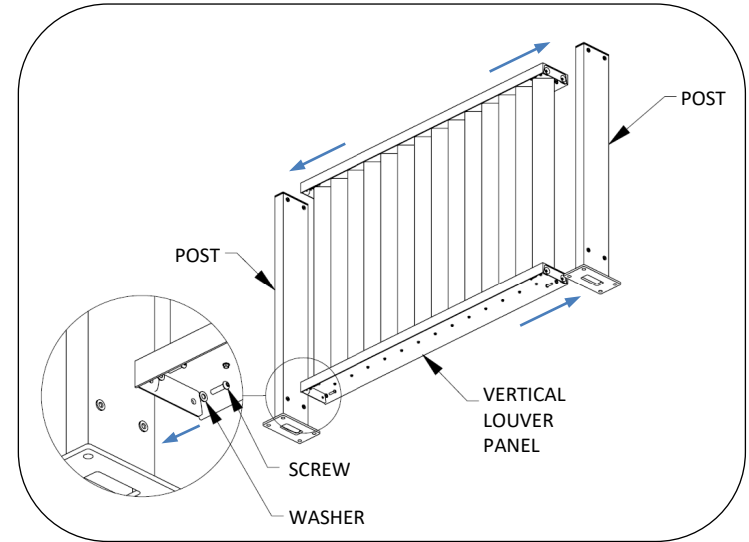

Fig. 2 – ATTACH VERTICAL LOUVER PANEL
- For angled vertical louver walls and perforated panels, top and bottom channels are connected to wall panels. Full wall assembly is attached to the posts. See Figs. 2 and 3.